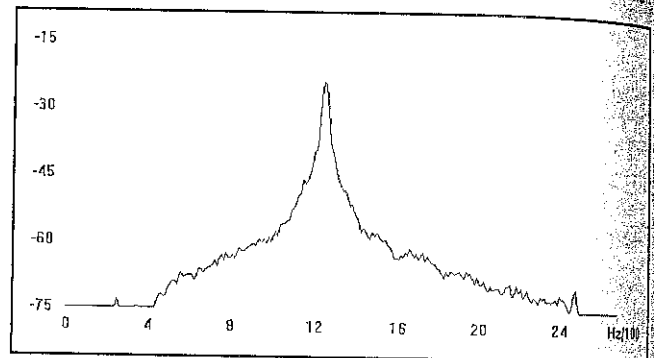
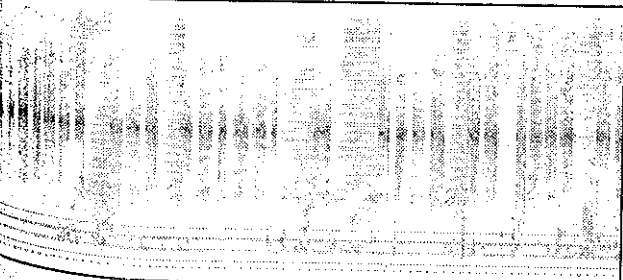

Figure 2.
Figure 4.
Sound Card for input.(2) Figure 2 is a 256 point FFT (Fast Fourier Transform), averaged over 32 measurements to smooth the noise, and shows a 32 wpm string of CW dots.
The spectral display (for example, in Figure 2), is an excellent tool which displays signal strength vertically, and frequency horizontally. However, it does not tell the whole story, as well as clicks and chirps, there are many things that are hard to see with a conventional spectral display. Now is the time to roll out the secret weapon, the waterfall display, which portrays signal frequency vertically, time horizontally, and signal strength in brightness or colour. The PC sound card waterfall plot or real-time spectrogram is arguably the most important amateur Radio test tool developed since the Grid Dip Meter. With a waterfall display, FSK keying, key clicks, chirp, hum and distortion are easily demonstrated. Figure 4 is a waterfall plot display, using GRAM,(2) and the display is of an off-air signal from